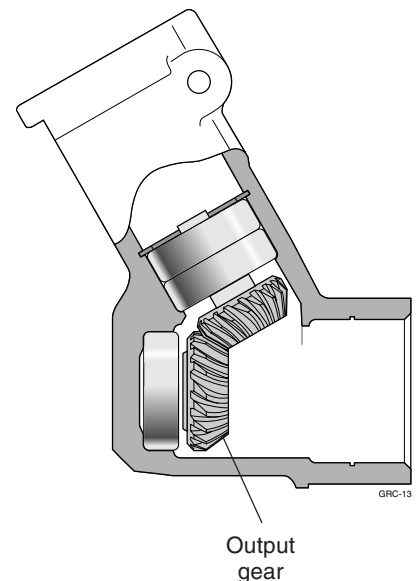

Figure 11.12 Hand-fit the output gear into the gearcase.
**STEP 1.** Using hand pressure only, locate the output gear in the gearcase (Figure 11.12).